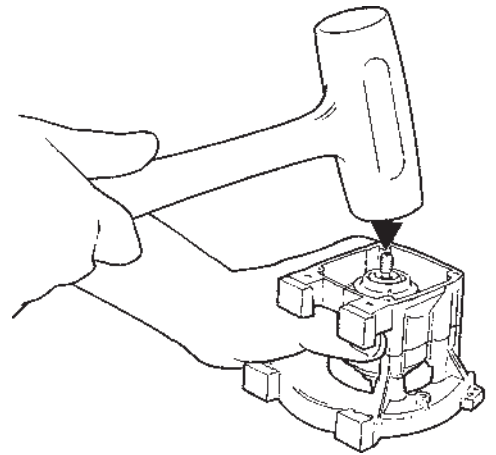

Figure 8.22 Crankshaft drag can usually be eliminated by sharply tapping the crankshaft ends with a soft-faced hammer.
- Any roughness or excessive drag may require centering the crankshaft within the crankcase by sharply tapping each crankshaft end with a soft-faced hammer (Figure 8.22).